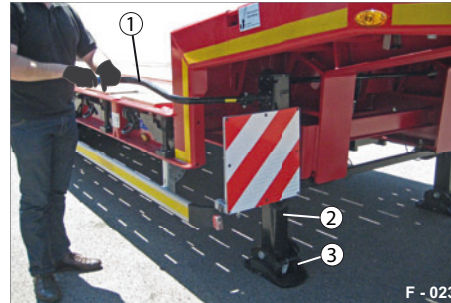

Fig. 56 Letting down support legs
- ▶ Crank up the support legs (Fig. 56/2) with the crank handle (Fig. 56/1) until the compensation feet (Fig. 56/3) are on the ground.